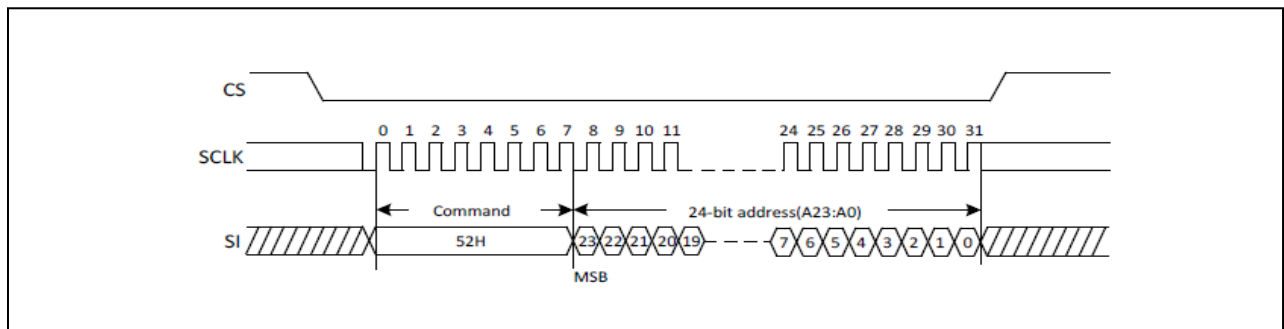

Figure17. 32KB Block Erase Sequence Diagram
The 32KB Block Erase command sequence: CS# goes low→sending 32KB Block Erase command→3-byte address on SI→CS# goes high. The command sequence is shown in Figure17. CS# must be driven high after the eighth bit of the last address byte has been latched in; otherwise the 32KB Block Erase (BE) command is not executed. As soon as CS# is driven high, the self-timed Block Erase cycle (whose duration is tBE) is initiated. While the Block Erase cycle is in progress, the Status Register may be read to check the value of the Write In Progress (WIP) bit. The Write In Progress (WIP) bit is 1 during the self-timed Block Erase cycle, and is 0 when it is completed. At some unspecified time before the cycle is completed, the Write Enable Latch (WEL) bit is reset. A 32KB Block Erase (BE) command applied to a block which is protected by the Block Protect (BP4, BP3, BP2, BP1, BP0) bits (see Table1 & 1.1) will not be executed. Note: Power disruption during erase operation will cause incomplete erase, thus recommend to perform a re-erase once power resume.